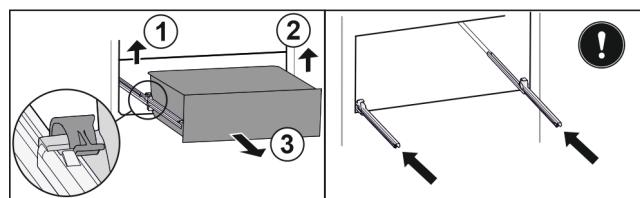

Fig. 147
- ▶ Lift left clamp and simultaneously pull drawer forwards on the left. Fig. 147 (1)
- ▶ Lift right clamp and simultaneously pull drawer forwards on the right. Fig. 147 (2)
- ▶ Remove drawer to the front. Fig. 147 (3)